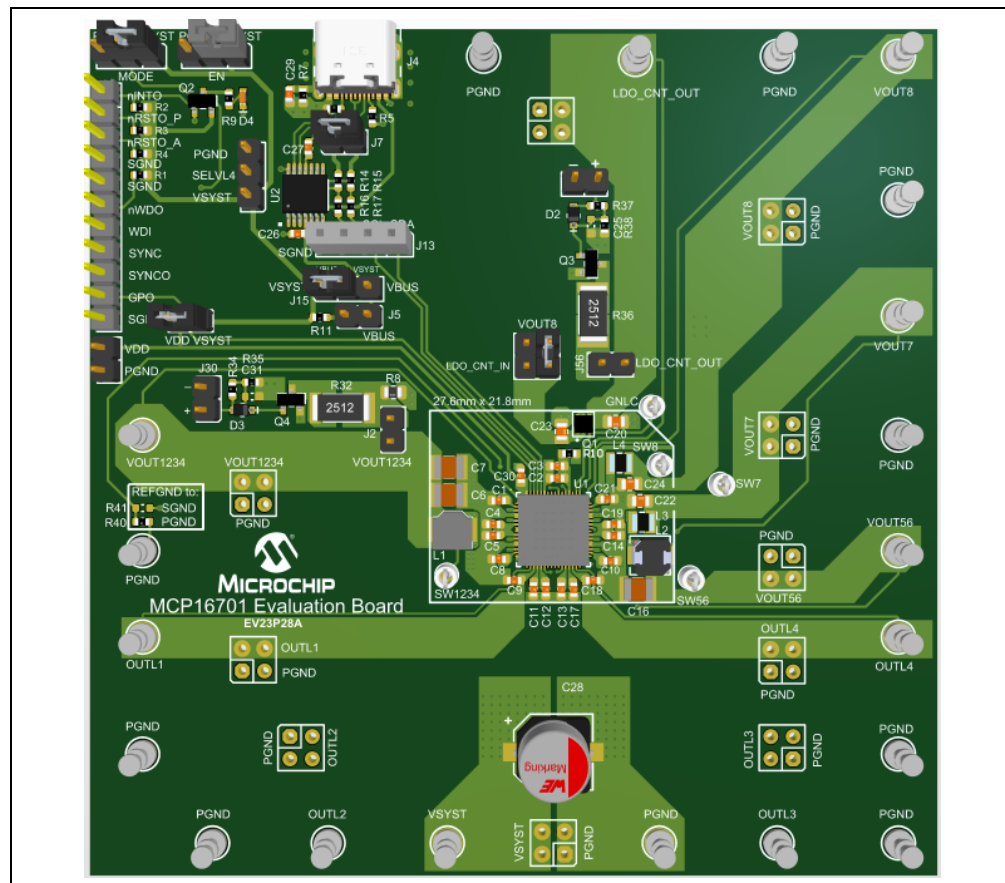

FIGURE 2-2: MCP16701 (EV23P28A) Evaluation Board Connections.
3. Make sure the jumpers are connected as in Figure 2-2 (MODE = EN = VDD = HIGH).